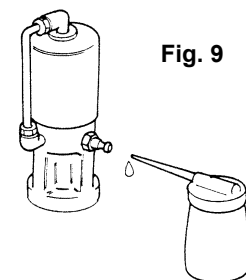

Fig. 9
- 2) Inject several drops (approx. 0.5 mL) of lubricant to the air supply port as shown in the figure at right. (Fig. 9)